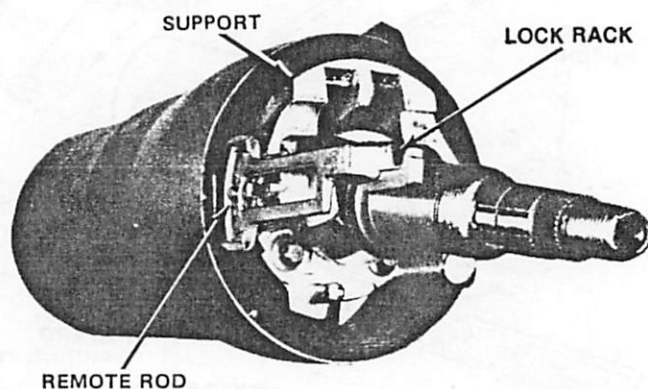

Fig. 2J-45 Lock Rack and Remote Rod Position
(13) Install shift gate in support and install shift gate attaching screws.
(14) Install support in shift bowl. Align V-notch in support with notch in column jacket (located at 9 o'clock position).
(15) Install support attaching screws.
(16) Assemble steering shaft.
(17) Install steering shaft through upper end of column.
(18) Install replacement ball bearings in housing if removed. Be sure there are 14 balls in each bearing.
(19) Install tilt handle.
(20) Insert ignition switch remote rod between shift-bowl and column jacket, and into guide channel in left side of support.
(21) Engage lock rack in remote rod (fig. 2J-45).